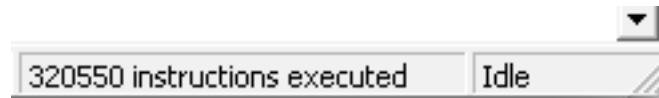

Figure 5: LC-3 Simulator: Count of Instructions Executed
- **Stop Execution** (same as *Execute* → *Stop*): Pause execution. (Definitely handy for stopping infinite loops.) You can tell if the program is running (not paused) if the count of the number instructions executed is increasing. This count is at the bottom-right of the simulator window (see Figure 5).